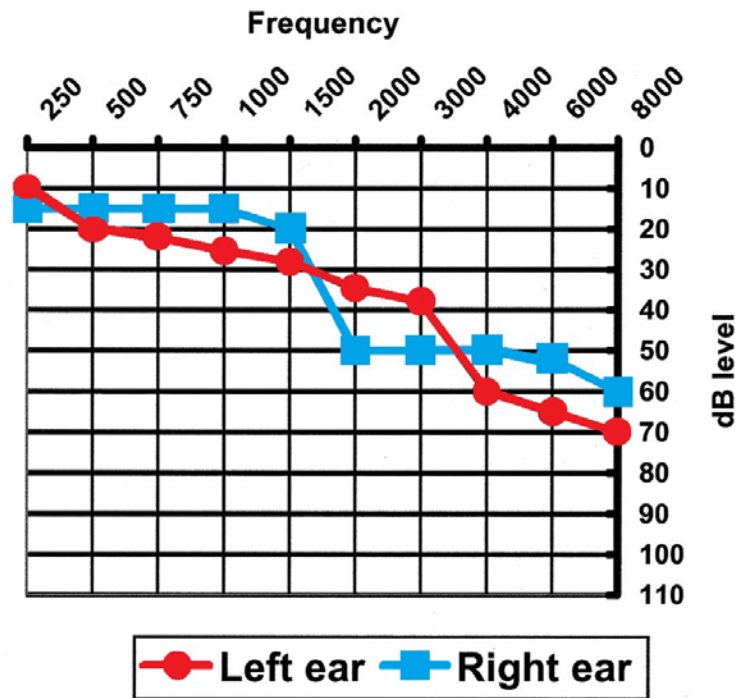

Figure 2-1. Sample audiogram.
An audiogram (fig. 2-1) is a graph that visualizes a patient's hearing sensitivity, with frequency charted on the horizontal axis and intensity charted on the vertical axis. Intensity is the level of sound power measured in dBs—in simple terms, the loudness of a tone. For threshold testing intensity, dBs are measured in hearing levels (HL), which is based on the standardized average of individuals with normal hearing sensitivity. During a usual test, we use frequencies of 250-8,000 Hz because this range represents most of the speech spectrum. Let's take a look at some specific tests performed using pure tone audiometry.